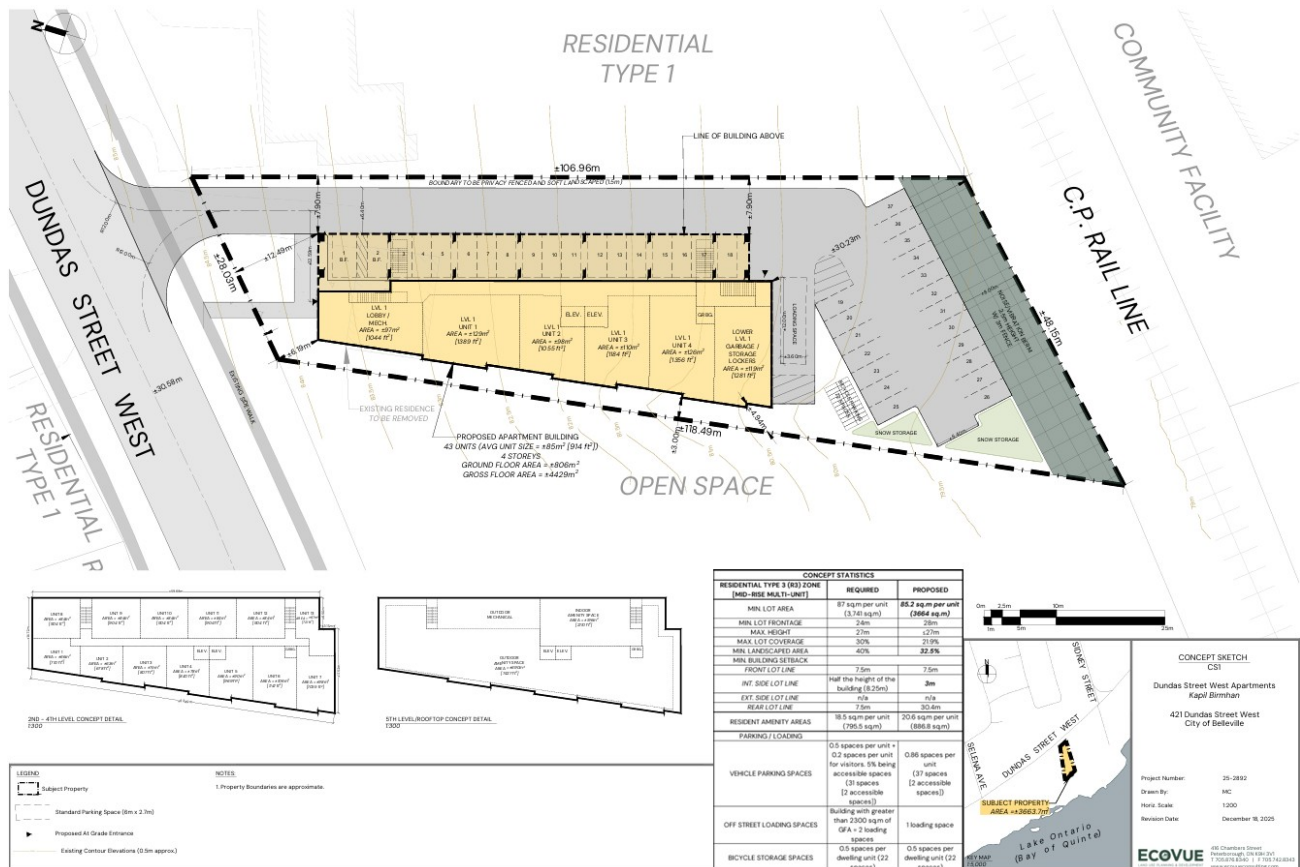

Figure 2 – Proposed Development
The property is proposed to be developed with a single multi-unit apartment building consistent of the following thirty seven (37) units as shown in the concept plan below as **Figure 2**.